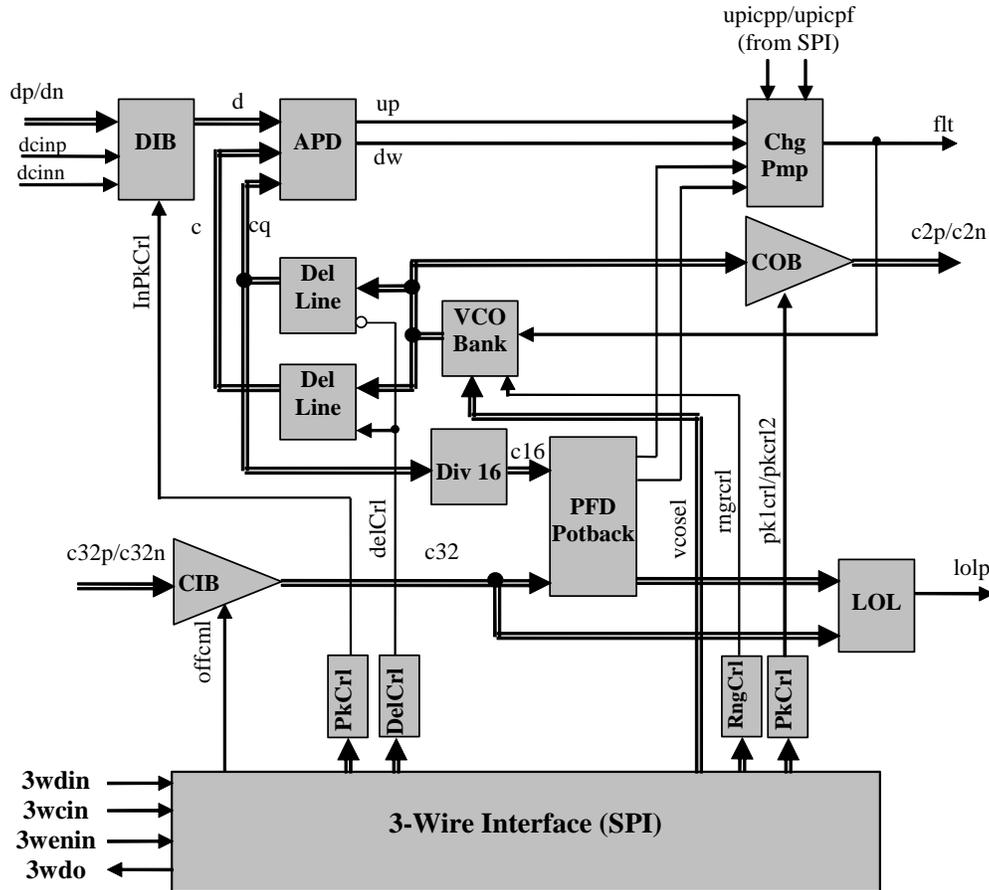

Fig. 1. Functional Block Diagram
ASNT8161-KMF is a half-rate integrated clock recovery (CR) circuit. The IC shown in Fig. 1 covers a wide range of input data rates ( $f_{bit}$ ) by utilizing its six on-chip VCOs (voltage-controlled oscillators). To reduce the physical number of control inputs to the chip, a shift register with a 3-wire input interface (SPI) has been included on chip. The SPI block provides all the digital controls for the chip. It also provides digital controls for digital-to-analog converters (DACs) that handle internal analog DC voltage adjustments.